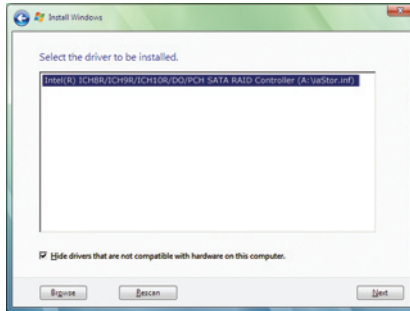

Figure 6
When a screen as shown in Figure 6 appears, select **Intel(R) ICH8R/ICH9R/ICH10R/DO/PCH SATA RAID Controller (A:\IaStor.inf)** and click **Next**.